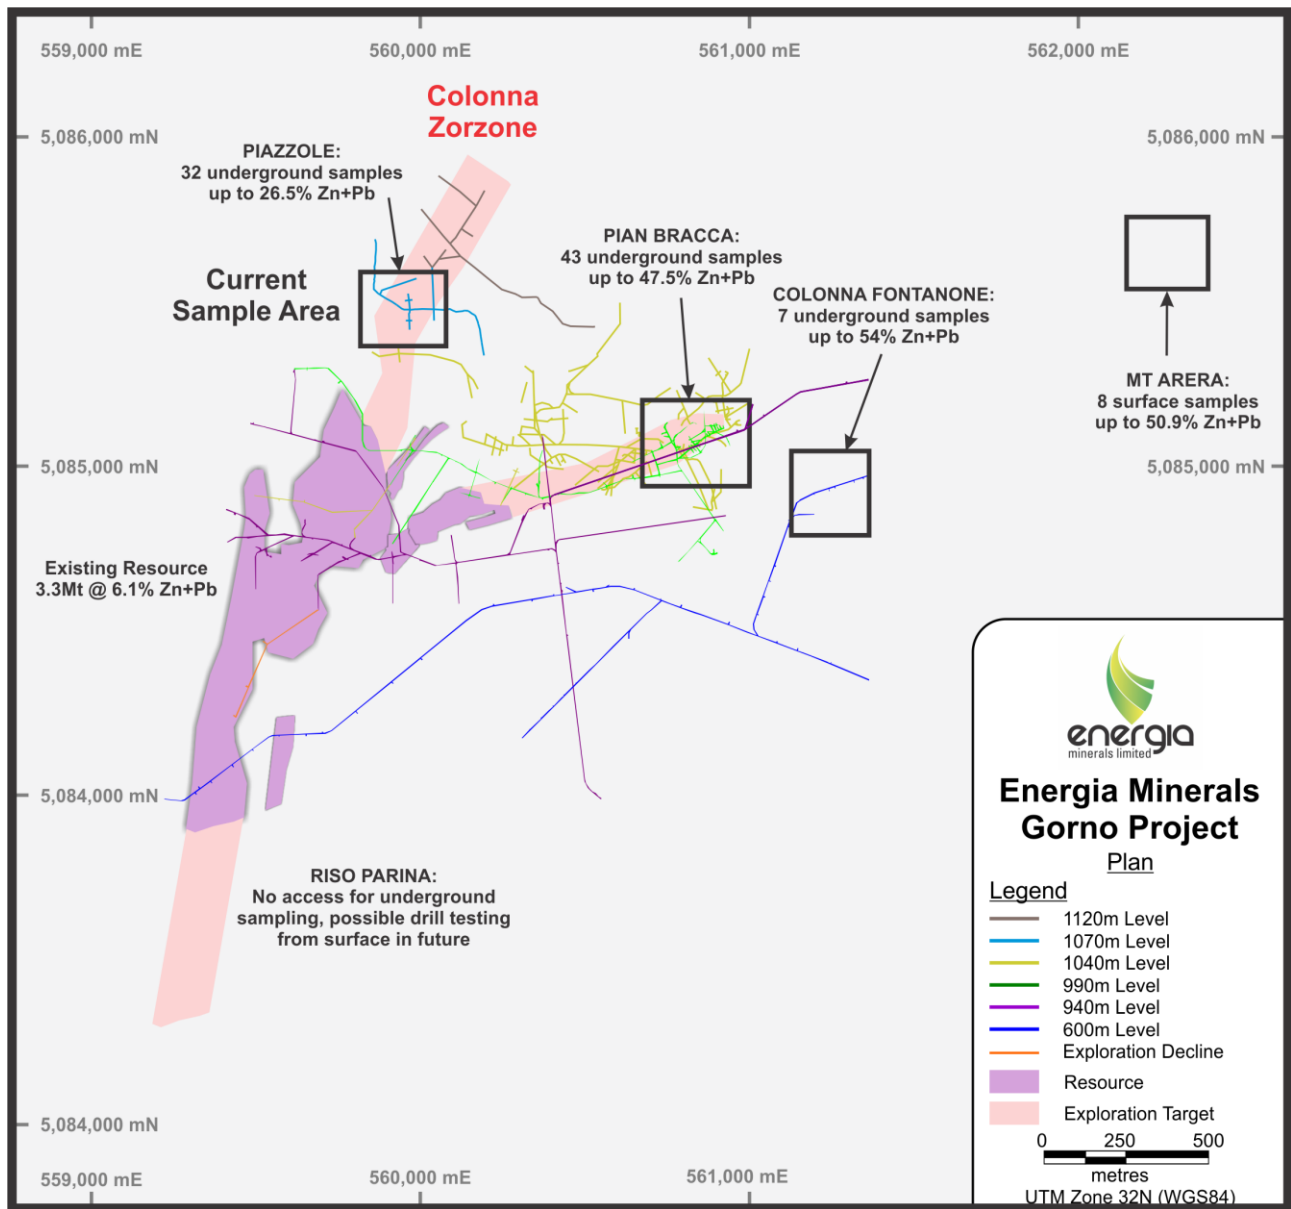
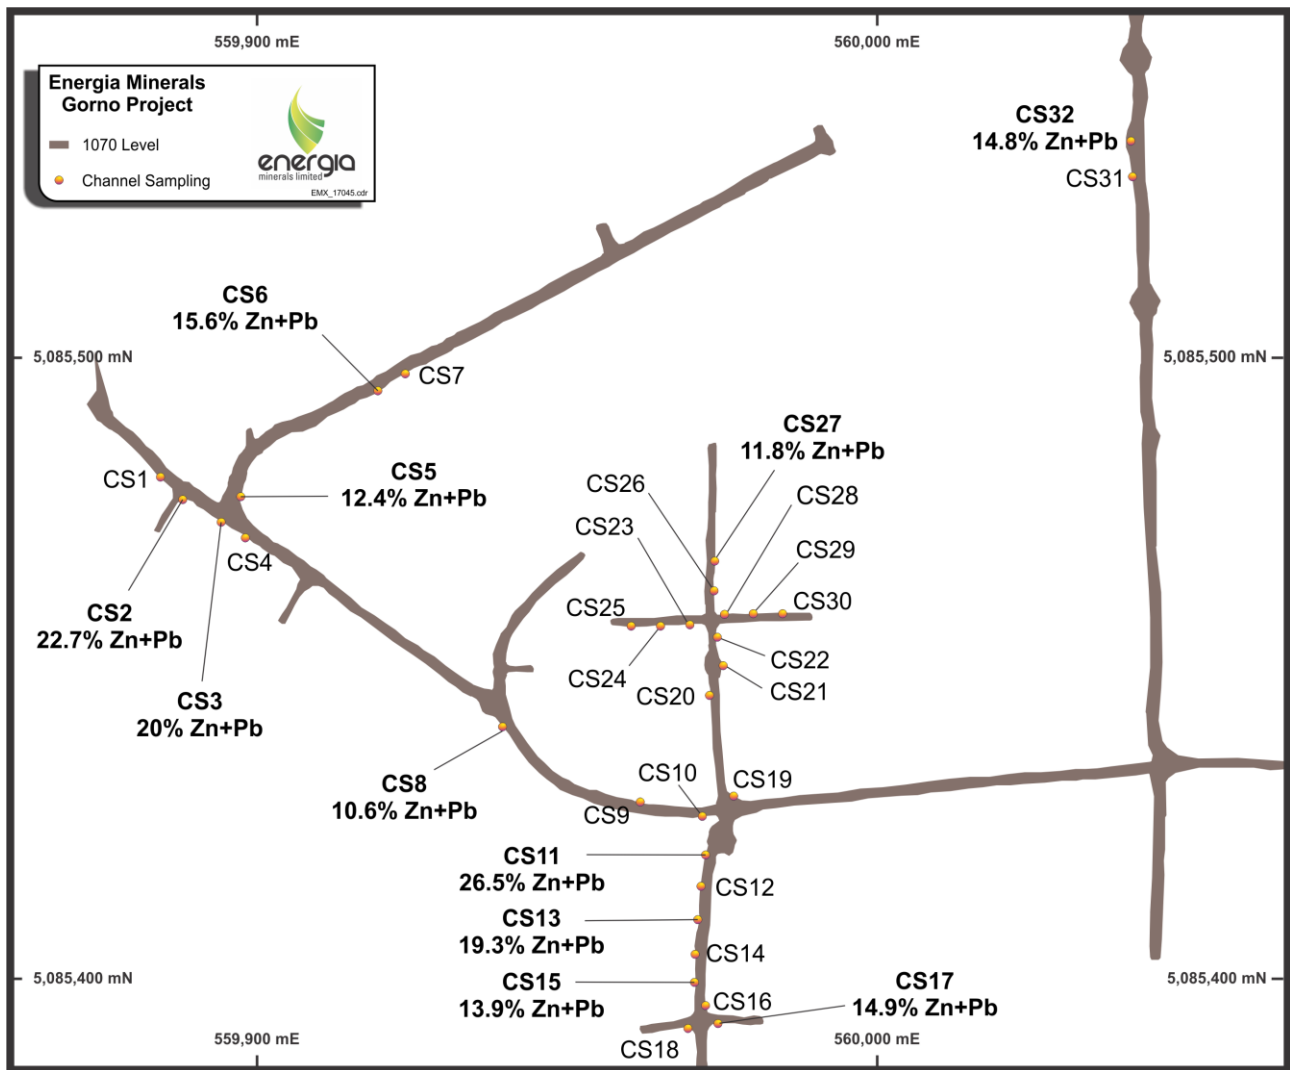

Figure 1: Location Plan showing existing resource and sample area location
Figure 2: Current Sample Area Results
- **Underground sampling along the exposed walls of the 1070 RL drive at Piazzole (refer to Figure 2) has returned results including:**
This latest sampling program by the Company represents the final stage of the low-cost regional exploration work commenced in May 2017, utilising existing access to zones of mineralisation to investigate Gorno's regional exploration potential beyond the current Resource Estimate for Colonna Zorzone of 3.3Mt grading 4.8% Zn, 1.3% Pb and 27g/t Ag. Refer to Figures 1, and 2 for sample locations.
While these sample results cannot be used in a resource estimate¹ at the current time, they provide support for Energia's geological interpretation and, furthermore, characterise the mineralisation types as oxide or sulphide (refer to Figure 1 and Figure 2 for details and Table 1 for assay and location data).